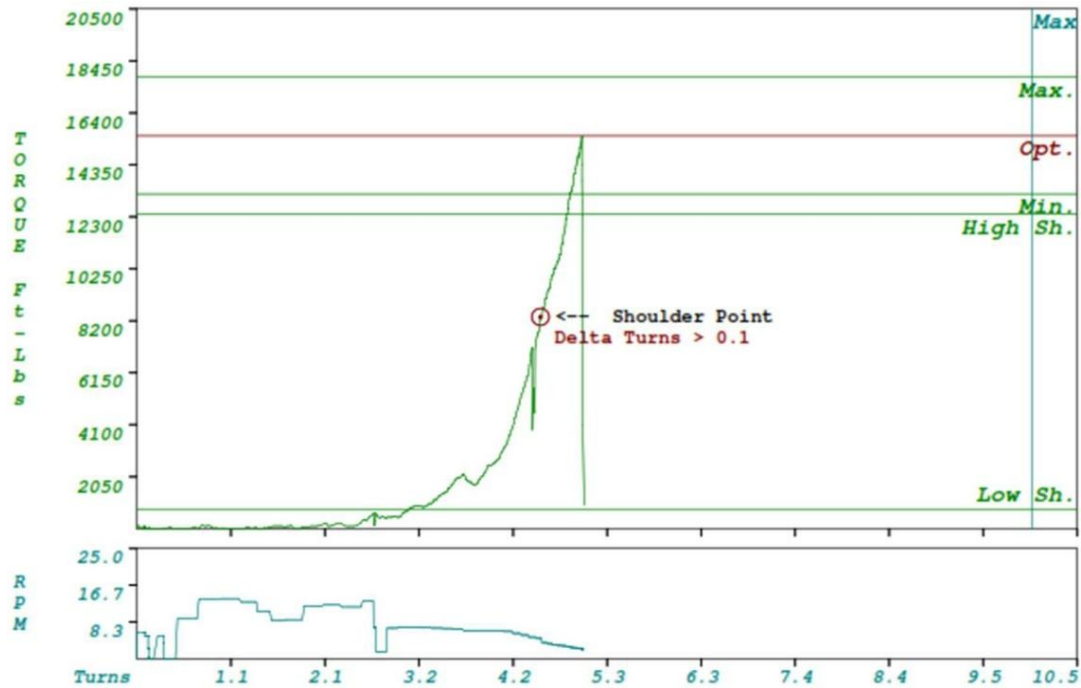

Figure 7: Unacceptable Make-Up Graph
4.19 Figures 7 and 8 are examples of unacceptable graphs where too much thread compound was applied.